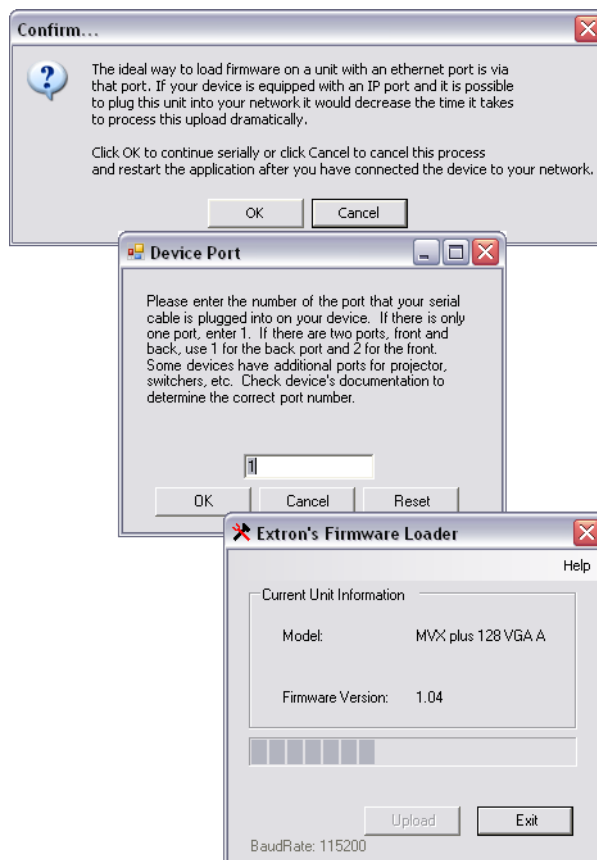

Figure 5-12 — Confirm window
8. Click **Upload**. The File Loader advises you that using the Ethernet (LAN) port is preferred over using either serial port (figure 5-12).